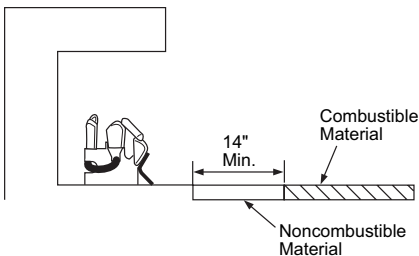

Figure 8 - Minimum Fireplace Clearances if Installed at Floor Level
- If installing appliance on the floor level, you must maintain the minimum distance of 14" to combustibles (see Figure 8).